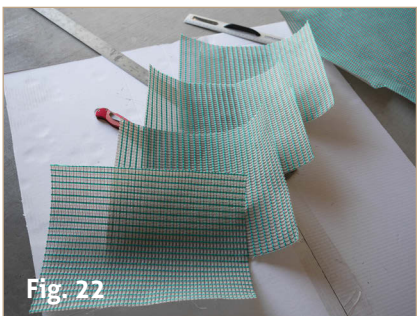

Fig. 22
Step 28. To cut the grille cloth, measure the length and width of your windows. Take note of that measurement, and then add an inch or so to both numbers, since you want a bit of overhang. Cut it to size with a utility knife—one piece for each wall, four in total (**Fig. 22**).